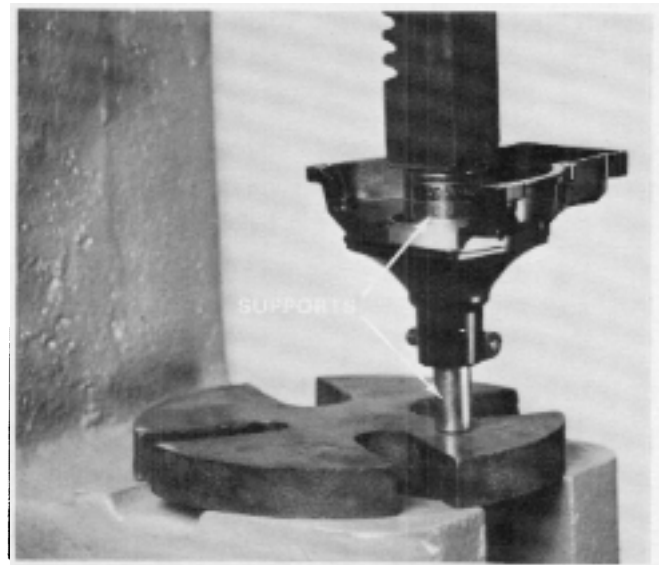

Figure 80
4. Support the inner race of the clutch housing bearing from the drive shaft end with a sleeve or deep well socket and press the clutch drum into the housing. See Figure 80.